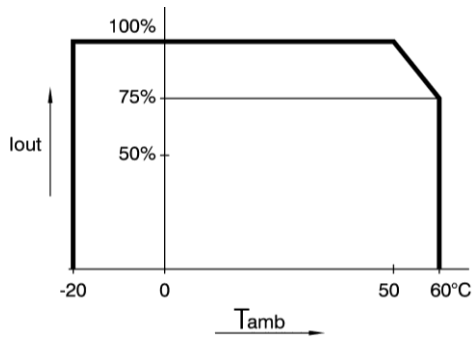

Figure 6.5: Operating temperature ranges. Note the current derating is the same for either sink or source mode.
- For example from 50 to 60 °C the output current (either positive or negative) is derated to 75% at 60 °C, see Figure 6.5. These temperatures hold for normal operation, i.e. the air intakes & air outlets on the left and right side must be free.